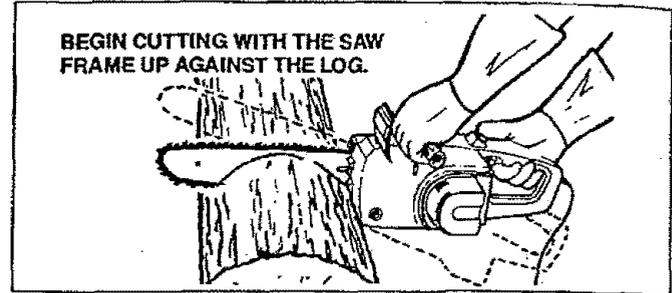

Figure 23
- Begin cutting with the saw frame up against the log. Figure 23.